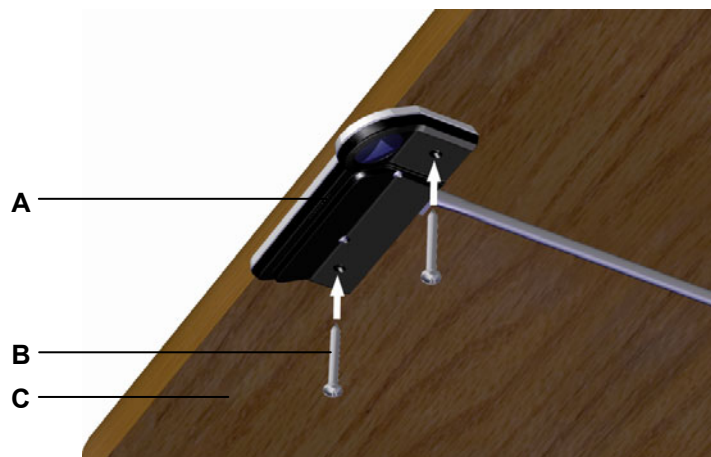

Figure 14 Installation of the Motion Assist Pro control keypad
The Motion Assist Pro control keypad is mounted with two screws under the table (under the front edge of the table) as shown in Figure 14.
- Use screws (B in Figure 14) which meet the requirements of DIN 7981 with $\varnothing 3.9$ mm and of suitable length (10 mm plus the screw-in depth into the table), screw head: $\varnothing 7.5$ mm.